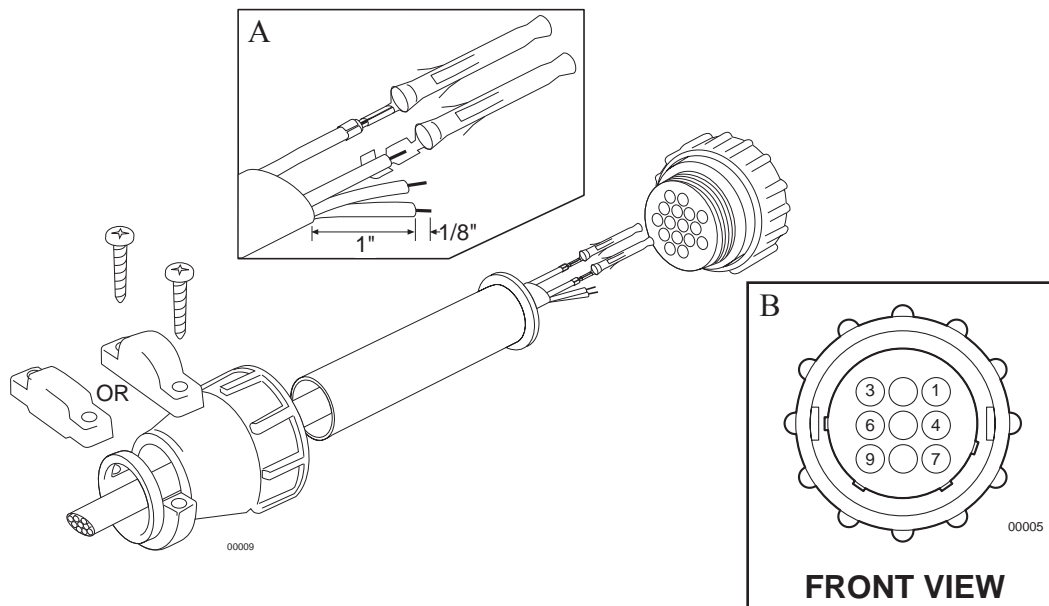
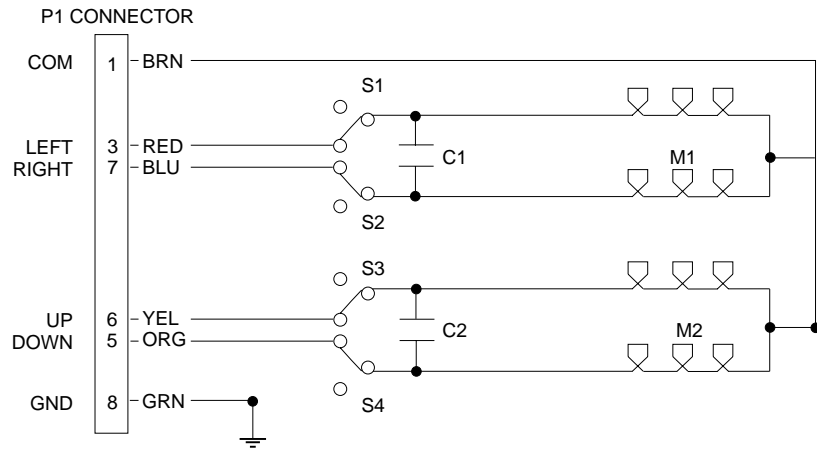

Figure 2. Mating Connector Assembly Diagram
Figure 3. PT270 Series Wiring Diagram
To assemble the mating connector, refer to Figure 2 and perform the following steps.
2. Refer to Detail A in Figure 2. Prepare the wires from the conductor cable as follows:
3. Slide the connector pins into the appropriate holes in the connector body until they snap into place. Refer to detail B in Figure 2 and to Figure 3 for correct pin arrangement.
Refer to Figure 3 for the following steps.